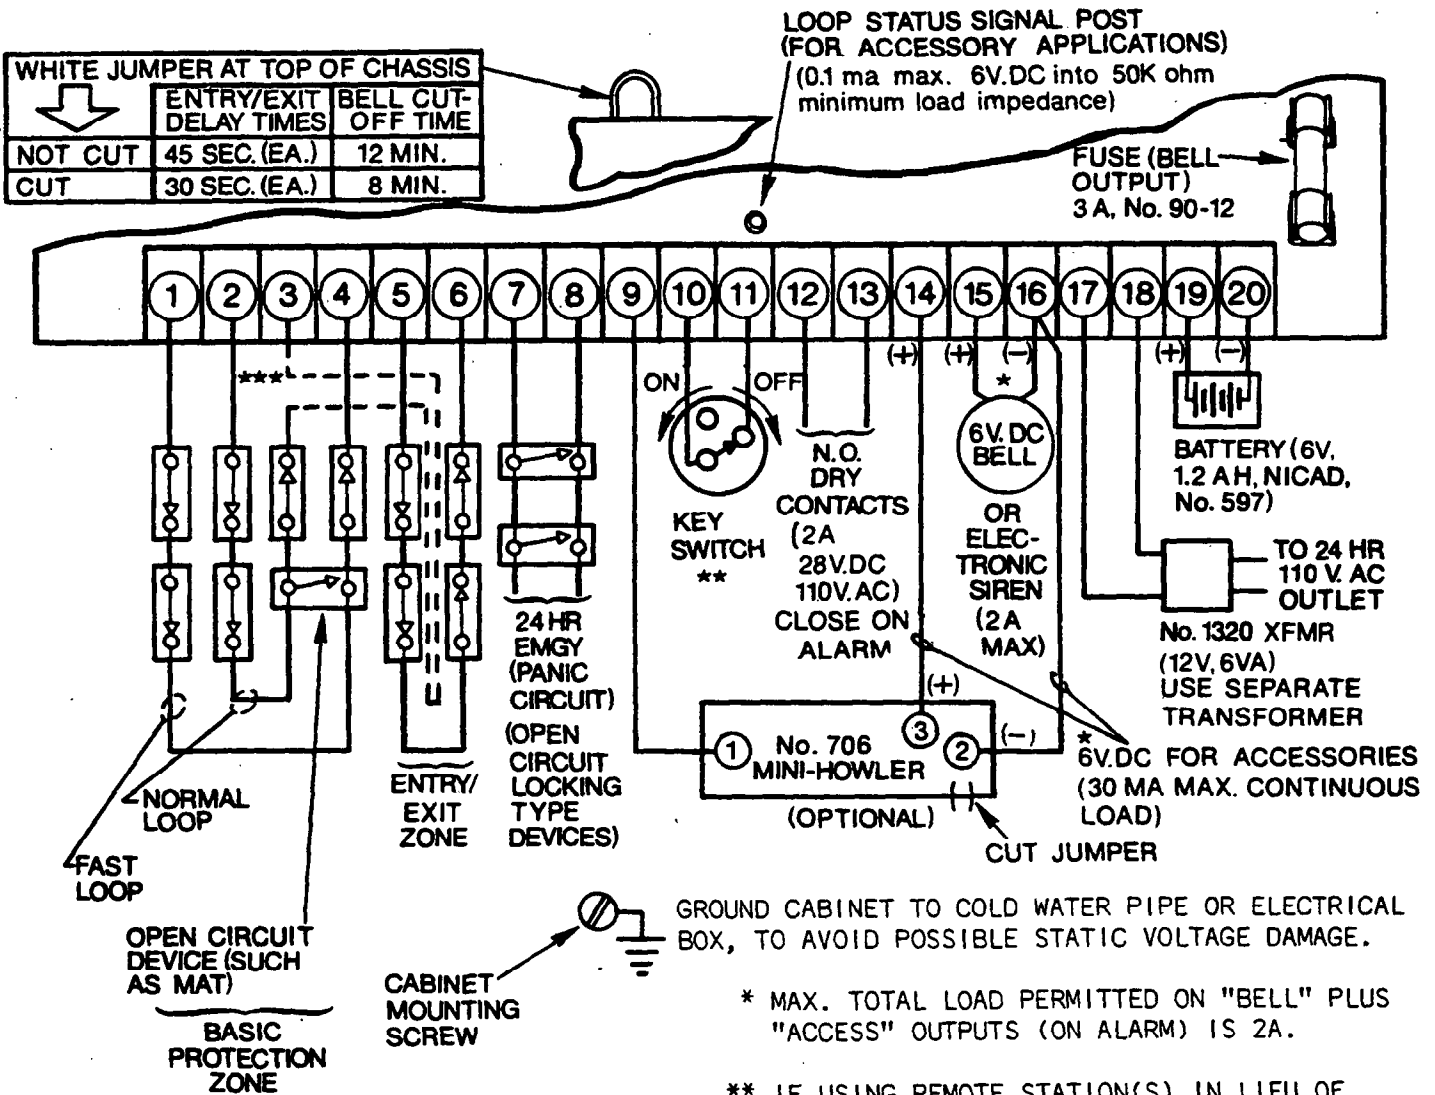

FIGURE 1: Field Connections
INSTALLATION AND WIRING: See Figure 1
A WHITE jumper is provided at the top of the chassis. If this jumper is cut it will shorten the factory provided entry delay, exit delay and "bell" cut-off times as tabulated in Figure 1.
- This zone provides entry and exit times of 45 seconds each (30 seconds if the WHITE jumper is cut per Fig. 1).
- For additional security (against shorts) the Basic Protection Zone's normal response loop may be routed along with the entry/exit loop as shown in Figure 1. A short between these loops when the system is ON, will result in an alarm after the entry delay.
- 9,14(+),16(-) No. 706 Mini-Howler (Optional): Connect as shown in Figure 1. The mini-howler will sound: 1) During the entry delay period. 2) In case of accidental closing with the entry/exit zone open. 3) If an alarm occurs in the entry/exit zone while the panel is ON. In this last case, the No. 706 will sound until the alarm bell cuts off or the entry/exit loop returns to normal (whichever occurs later). When sounding, the No. 706 draws 50 ma.
Note: Except during an emergency (panic) alarm, cut-off occurs after approximately 12 minutes (8 minutes if the WHITE jumper is cut per Fig. 1). The Alarm Memory LED remains lit until the panel is disarmed. If the protective circuits are then normal, the unit will report any subsequent alarm condition.